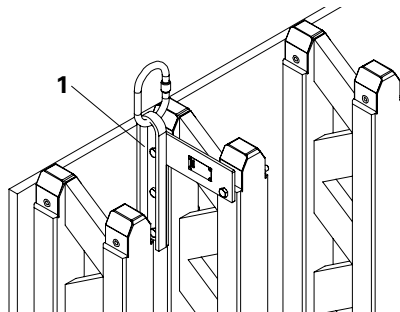

Fig. 7
5. Repeat action steps one to four on the left side with the Crane Eye 24 right (1). (Fig. 7)